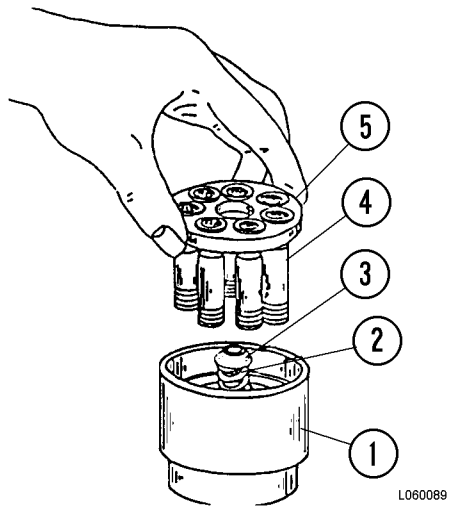

FIGURE 6-17. PISTON/SHOE REMOVAL
16. Piston/shoe assemblies (4, Figure 6-17) can be removed individually or as a group by pulling upward on the shoe retainer (5).
17. Remove the fulcrum ball (3) and shoe retainer spring (2).